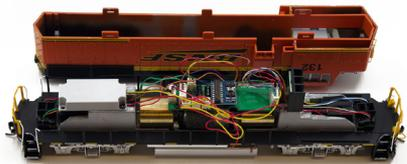

Figure 1: Remove loco shell
- Carefully remove the locomotive shell. **(Figure 1)** Note the orientation to the frame for correct re-installation. Arrange internal wires to expose the jumper board in the locomotive.